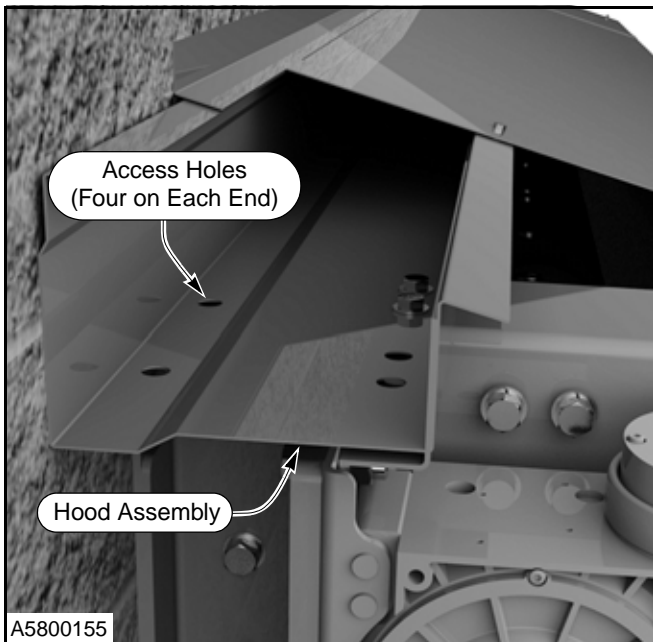

Figure 26
4. If the optional hood assembly is installed, route all cables and wires through prefabricated access holes. (See Figure 26.)